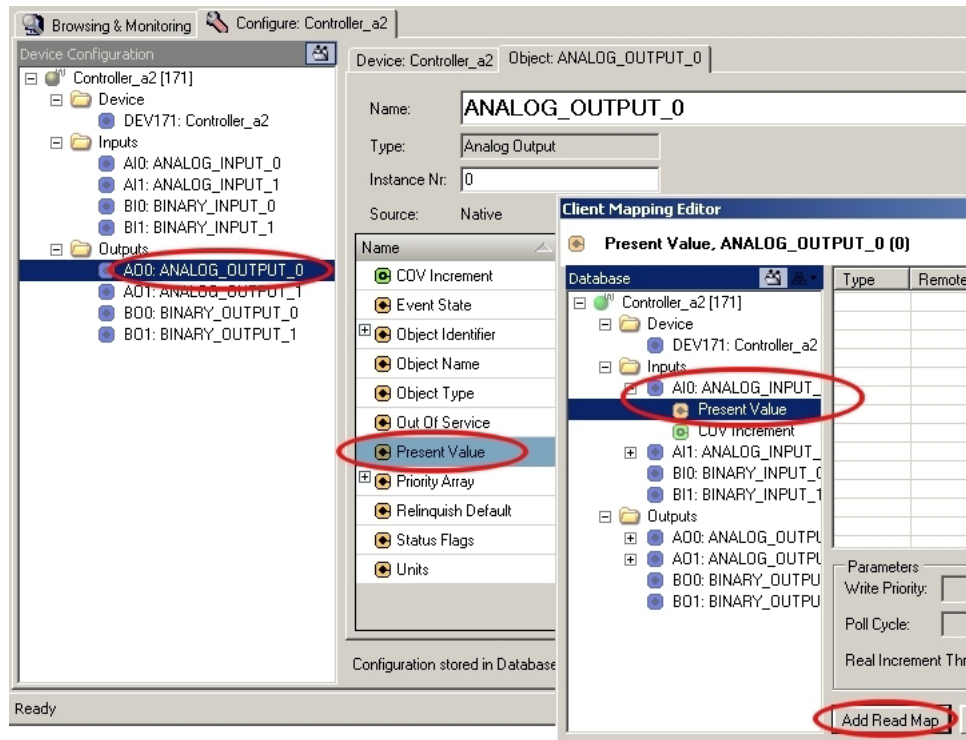

Fig. 4-30: Non-modal Client Mapping Editor
6. Select the object **Analog Input** underneath the device and the property **Present Value** below that (see Fig. 4-30).
7. Now link the **Present Value** of the selected **Analog Input Object** in the Editor with the **Present Value** of the local **Analog Output Object** selected in the main window by clicking on **[Add Read Map]** (see Fig. 4-30).